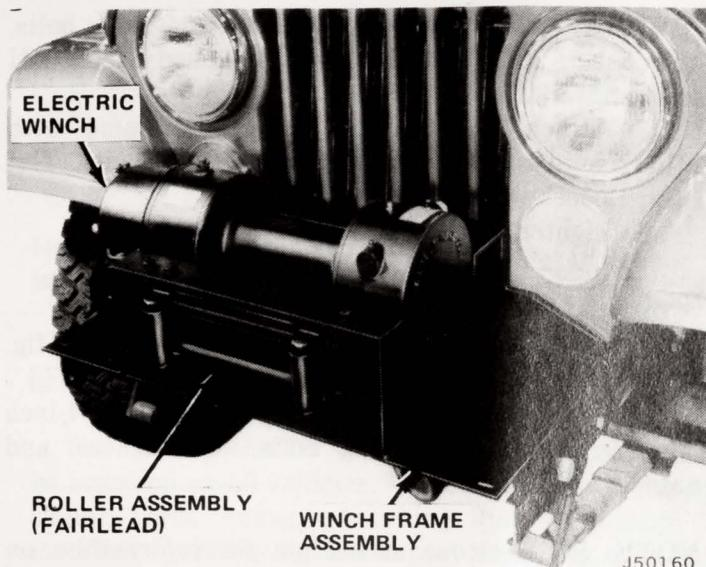

Fig. 5-4 Ramsey Electric Winch and Frame Assembly Installed
(1) Remove nuts, lockwashers, and bolts securing standard bumper to vehicle frame. Remove bumper.
(2) Position winch frame assembly on outside of vehicle frame rails (fig. 5-4). Secure with bolts, lockwashers, and nuts. Tighten nuts to 50 foot-pounds torque.
- (2) Disconnect and remove parking lamps.
- (3) Install wire extensions to both lamps.
- (4) Route extensions down each side of radiator and out at lower corners of grille.
- (5) Install headlamp assemblies and install parking lamp cover plates.
- (6) Attach parking lamps to brackets, connect extensions, and mount assemblies to winch assembly (fig. 5-4 and 5-5).